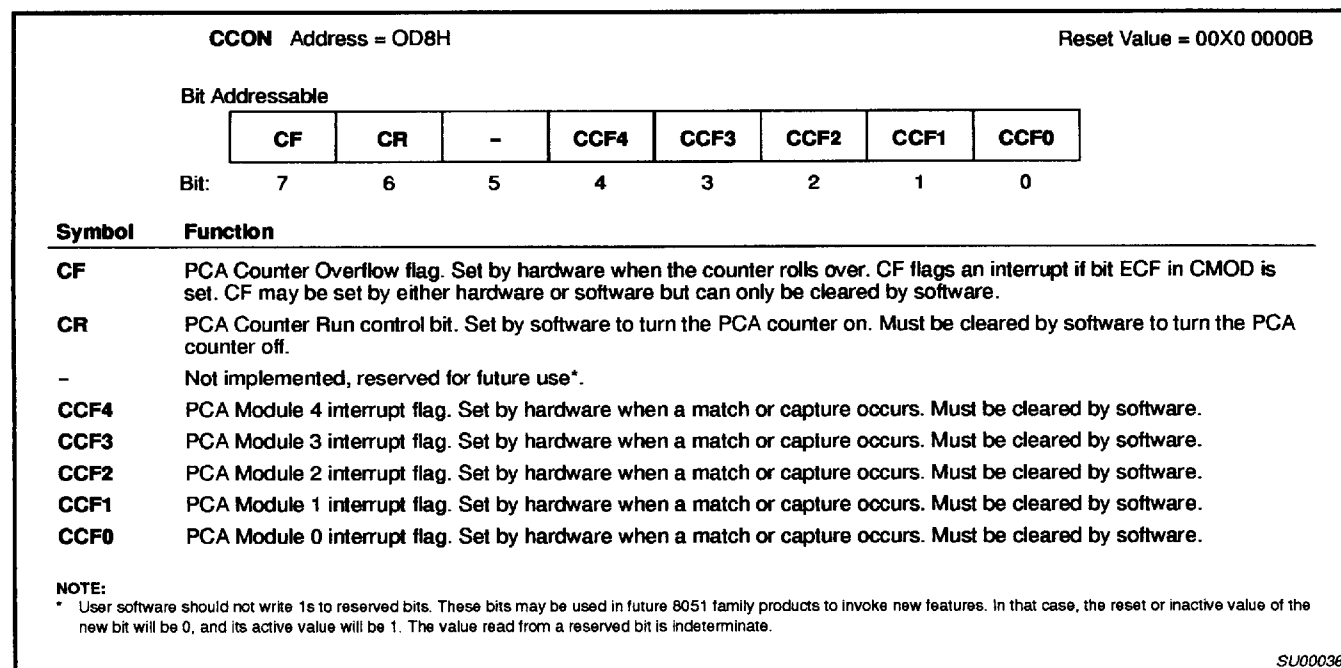

Figure 5. CCON: PCA Counter Control Register
The CCON SFR contains the run control bit for the PCA and the flags for the PCA timer (CF) and each module (refer to Figure 5). To run the PCA the CR bit (CCON.6) must be set by software. The PCA is shut off by clearing this bit. The CF bit (CCON.7) is set when the PCA counter overflows and an interrupt will be generated if the ECF bit in the CMOD register is set. The CF bit can only be cleared